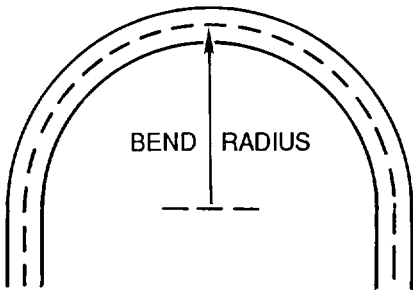

Figure 1. Bend Radius
10. **BEND RADIUS.** The maximum amount a wire can be bent without causing damage to the conductor or insulation is referred to as minimum bend radius (Figure 1).